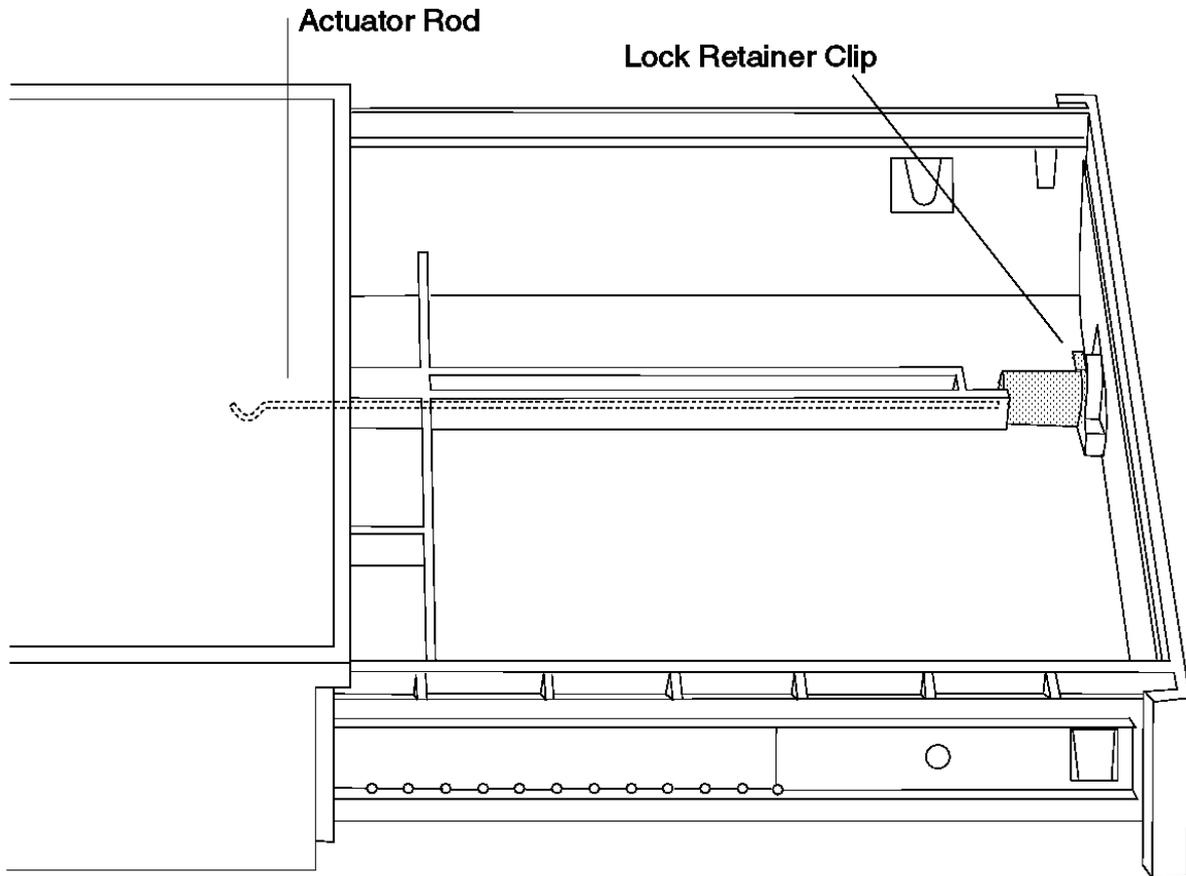

Figure 2-10. Removing and Replacing the Keylock Assembly
2. Remove the lock retainer clip holding the keylock assembly on the inside of the drawer. See Figure 2-10.